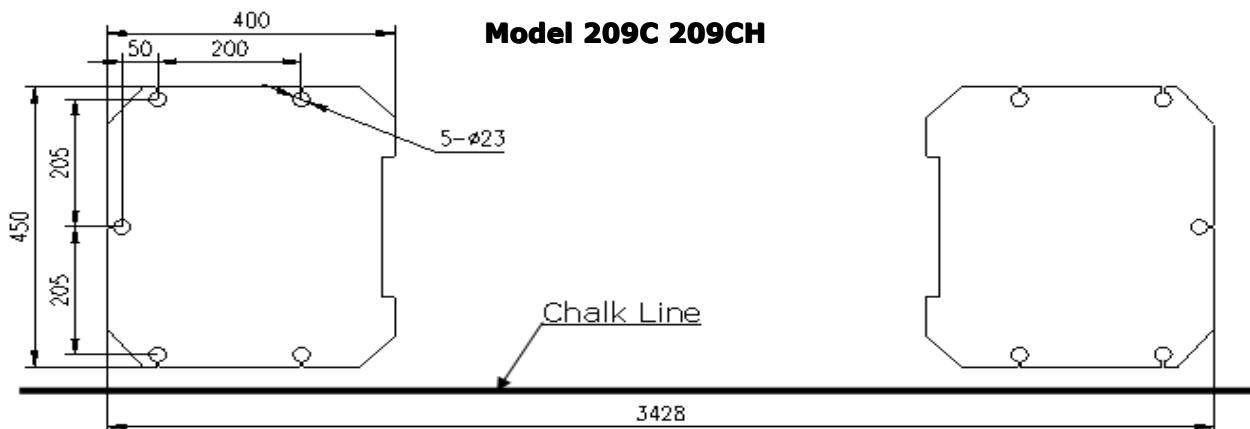

Fig. 5
B. Use a carpenter's chalk line to establish installation layout of baseplate (**See Fig.5**).